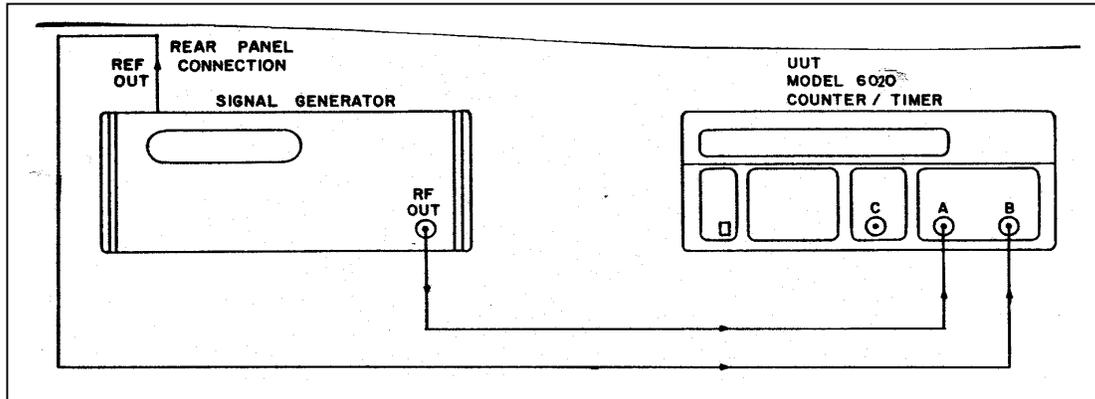

Figure 5-8. Ratio A/B Test Set-up.
1. Connect the test equipment as described in Figure 5-8.